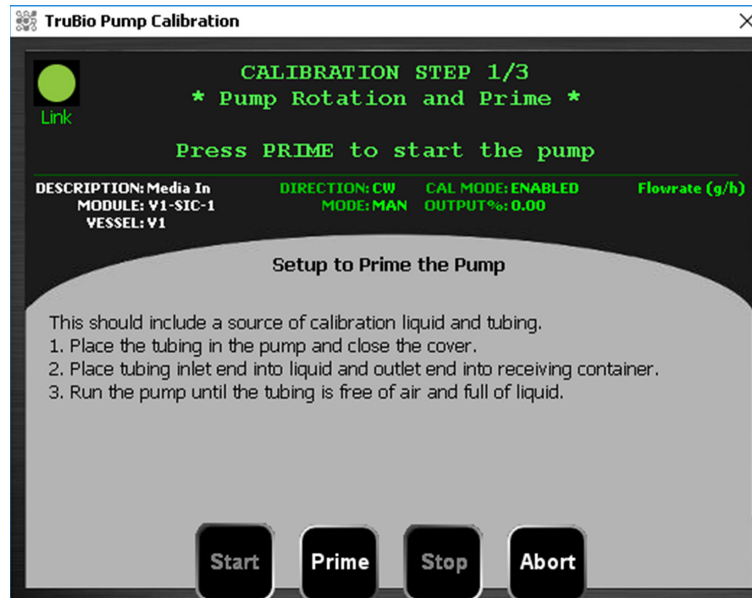

Figure 3.34. Calibration step 1 of 3: Setup to prime the pump.
8. Follow the instructions on the **Calibration Step 1/3** screen to complete the calibration (Figure 3.34).